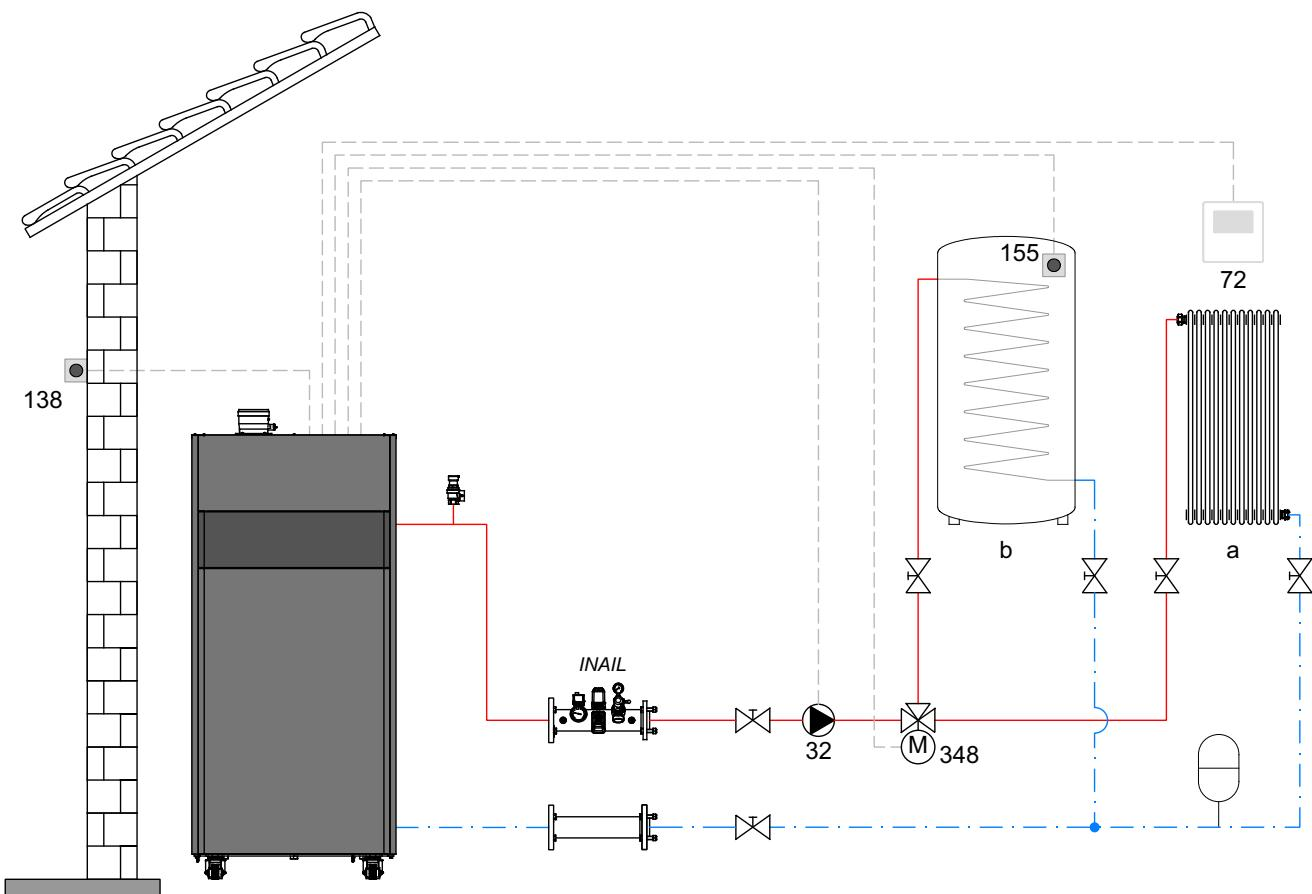
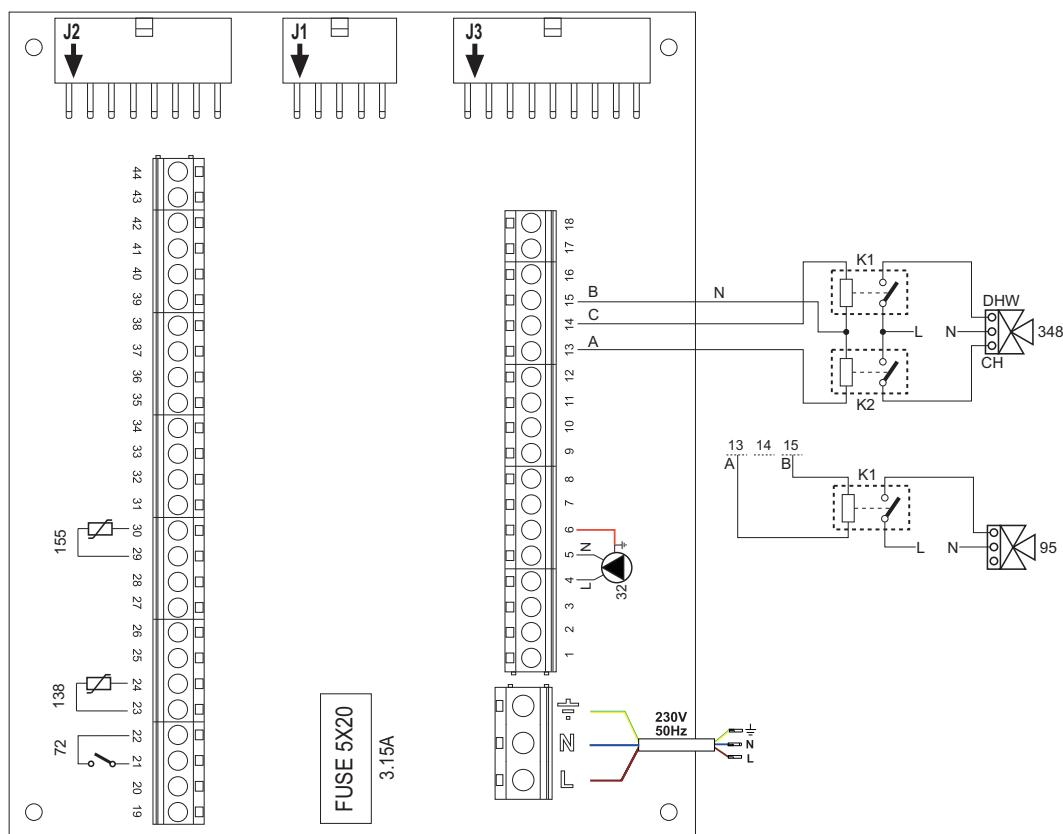

fig. 43
fig. 44
#### Legend (fig. 43 and fig. 44)
**! To avoid damaging the board, it is advisable to use external relays to control the 3-way valve, as indicated in fig. 44.**